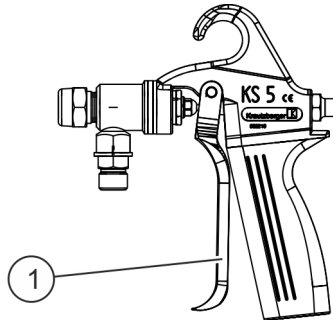

Fig. 5: Long-term shut-down
1. ➤ Disrupt the spraying process by releasing the pull lever (Fig. 5/1).
3. ➤ Release the residual energy by activating the pull lever (Fig. 5/1).